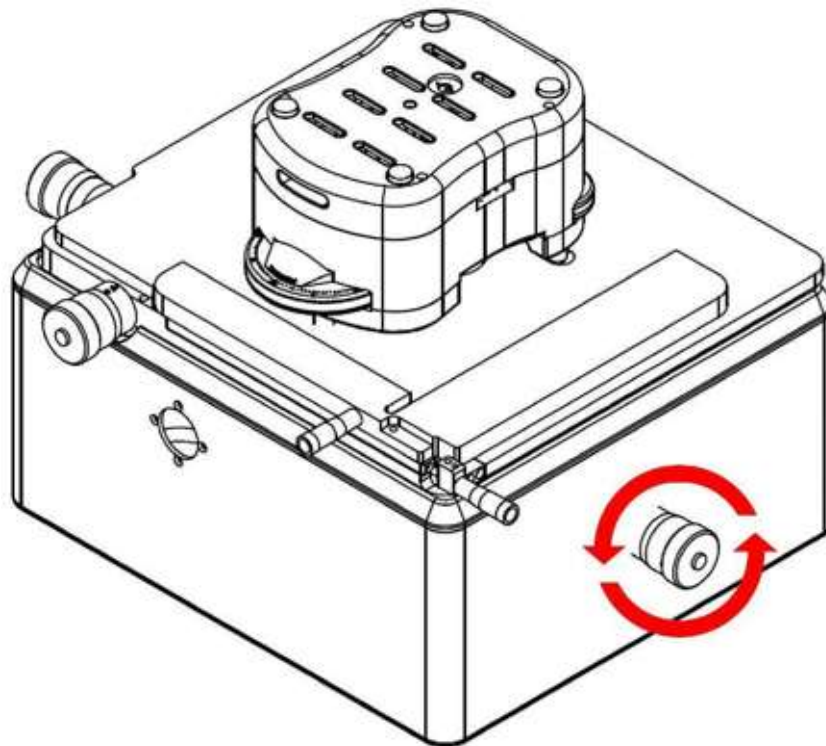

Figure 4.9 Unpark the MFP-3D™
2. Unpark the video camera by turning the microscope focus knob counter-clockwise 5 to 10 turns (See Figure 4.9).